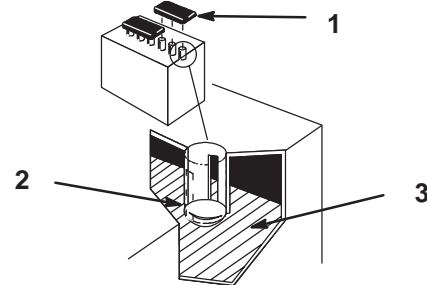

Figure 25
2. Remove the filler caps. If the electrolyte is not up to the lower part of the tube (Fig. 25), add the required amount of distilled water; refer to Adding Water to the Battery on page 28.
2. Remove the filler caps (Fig. 25).
3. Slowly pour distilled water into each battery cell until the level is up to the lower part of the tube (Fig. 25).